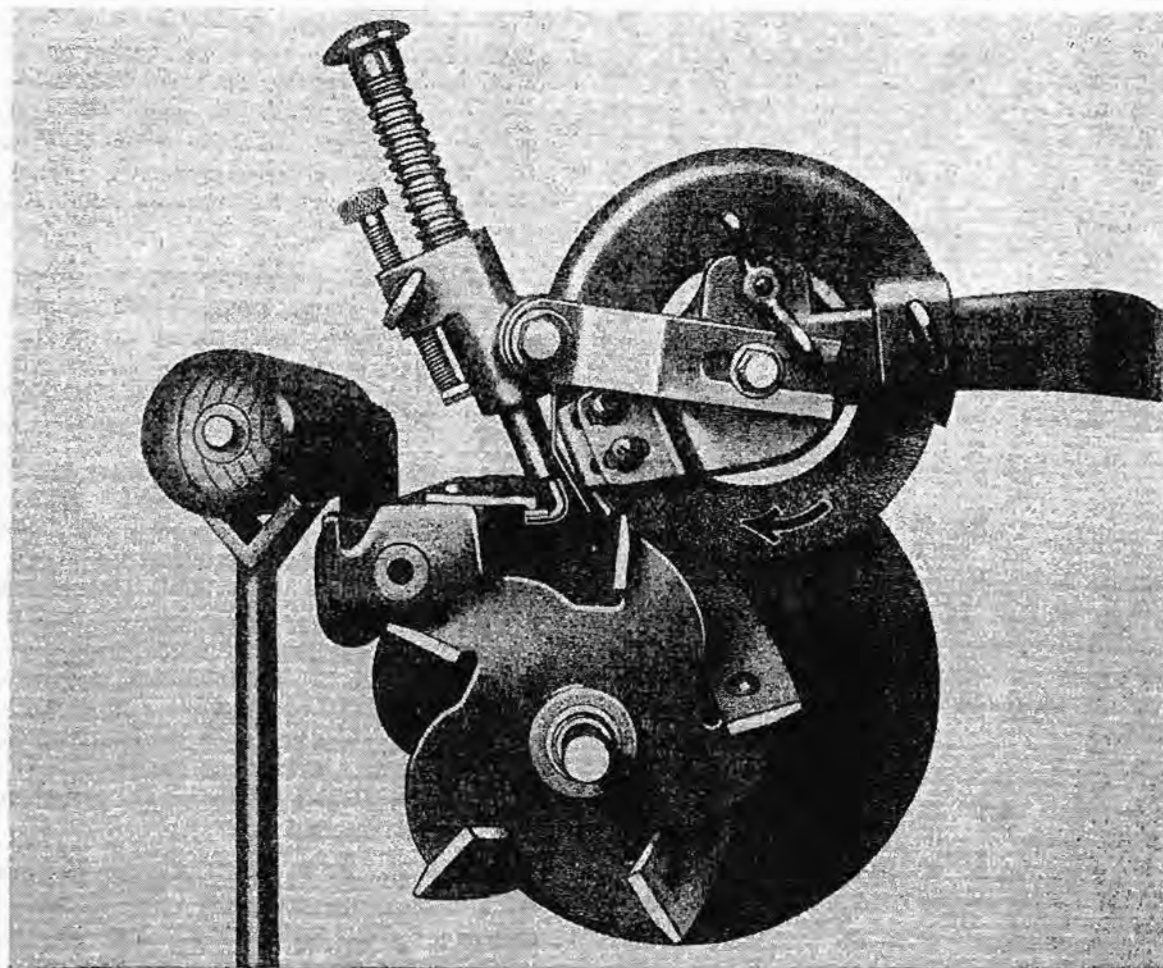

Fig. 16
76. The feed control screw (2, Fig. 4) should be turned in at least half way of its length as shown in Fig. 16 to allow ample thread length for feeding the grinding wheel while sharpening. The finger point (6, Fig. 4) should be rotated as far around the grinding wheel toward you as it will go.
82. (Refer to Fig. 16.) Engage the hook under the bed knife at the left hand side of the mower and again determine if the reel blade will pass under the grinding wheel coming within ⅛ or ⅜" of it. If your adjustments have not disturbed this condition you are ready to set the bevel. If the blade strikes the wheel or clears it by too great a distance, it is again necessary to raise or lower the mower until the desired position is reached. When the bed knife is within this distance of the grinding wheel, rotate the reel blade back and forth under the wheel and, with the feed control screw turning in a counter clockwise direction or un-screwing it, cause the grinding head to lower and the wheel descend until the reel blade you are rotating back and forth just contacts the grinding wheel lightly. This is the position at which the diameter of the reel contacts the diameter of the grinding wheel and will be referred to as the "no clearance" point. If the finger point J-28C (#1, Fig. 4) were to be set in this position the reel blades would be ground without any bevel or clearance behind the cutting edge. Therefore rotate the reel blade toward you past the no clearance point of the grinding wheel, and turn the feed control screw, on which there is a mark to indicate the position, clockwise one-half to five-eighths of a single turn. This lowers the grinding wheel slightly and when you rotate the reel blade back you will find that it strikes the grinding wheel and cannot pass under it. The grinding wheel now touches behind the cutting edge. Holding the reel blade at this contact point with the grinding wheel rotate the J-28C finger around the wheel until it contacts the reel blade and holds it against the wheel at this point. If the wheel were permitted to lower more than the amount allowed the one-half to five-eighths turn the amount of bevel or angle would be greater. On some hand mowers you may find it desirable a clearance angle obtained by about
a three-quarter turn of the feed control screw. On power mowers and heavy duty mowers, about a half turn will be sufficient. With this method it is possible for you to set the same amount of bevel angle on any mower by the amount you turn the feed control screw after the determining the "no clearance" point of the wheel and reel. This is the only method we know of where the exact bevel angle can be duplicated again and again on any mower and it can be altered to suit the individual. Lock the J-28C finger point in this position and you have the bevel set for grinding the reel blades. See Fig. 16.
83. You may now rotate the grinding wheel by hand, using the reconitioner pulley on the left side of the motor as the hand wheel. Turn the grinding wheel in the direction indicated in Fig. 16. The grinding wheel should scratch the reel blade lightly. If it does not, turn the feed control screw until it does. If you can't turn the wheel, turn the feed screw clockwise to relieve the pressure. Now move the grinding carriage to the right end of the mower in contact with the same reel blade. If necessary disengage the hook to move the carriage. If the grinding wheel does not scratch the same at the right hand side as it did on the left, use the horizontal adjusting crank P-230 on the right hand side to move the mower in or out until the same amount of contact is obtained, (without changing any other adjustments.) Now move the carriage back to the left hand side on the same reel blade and recheck the scratching contact there. If one side of the mower is moved to any ex-
84. Set the carriage stops so that the hook has room to disengage at one end of the bed knife and re-enter at the other end. These stops will prevent the carriage from traveling too far and possibly grinding into the side frames of the mower. Now number the reel blades with chalk using the blade on which the adjustments were made as No. 1. Roman numerals serve best and you should rotate the reel blades toward you numbering them in that order until all are numbered. The mower shown in Fig. 16 has a five-bladed reel with a right-hand twist. This is the most common type and the proper direction of grinding wheel travel is from left to right. The weight feed can be wound on the cable drum in such a manner as to cause the grinding head to feed left to right. For mowers with a right hand twist spiral the weight feed should be allowed to wind
86. Before you begin to grind, we suggest you practice engaging the reel blades with the grinding wheel a few times before starting the motor. Fig. 16 shows how the reel blade is engaged between the finger point and the grinding wheel. The blade should be started just behind the point of the finger allowing the taper of the finger to guide the blade down to the contact point with the grinding wheel. Use the right hand to guide the reel at the extreme end of the reel blades below the cutting edge, then if the grinding wheel should accidentally kick the reel around, you will not be cut. Also be sure that the mower is set so that the hook is in contact with only the cutting edge of the bed knife as shown in Fig. 16. If the hook should slide on a surface behind the cutting edge of the bed knife, then the reel blades would not be ground to correspond with the cutting edge which they will shear against.
9. Do not fail to keep the J-25C hook set as close to the grinding wheel as possible. See Fig. 16 for the correct setting.